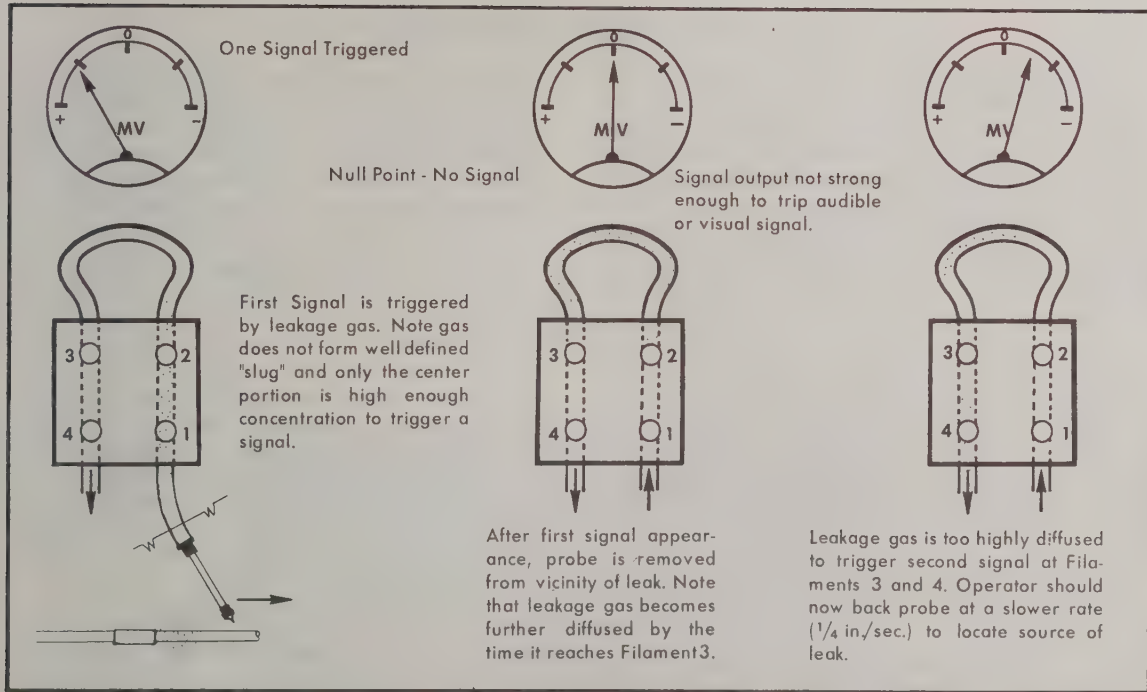

Fig. 6 Case C; Single Caused by Slight Leak
- C. A single signal which occurs after probing slightly past a small leak. No second signal is triggered after the Probe is removed from leak source (Fig. 6).